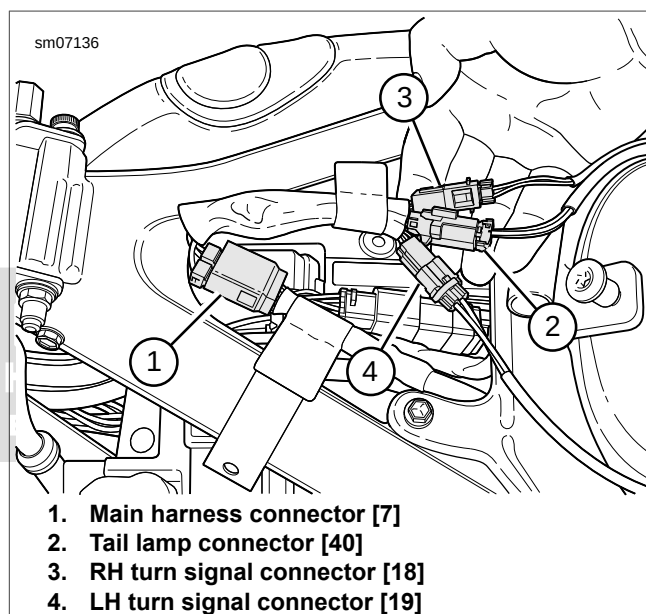
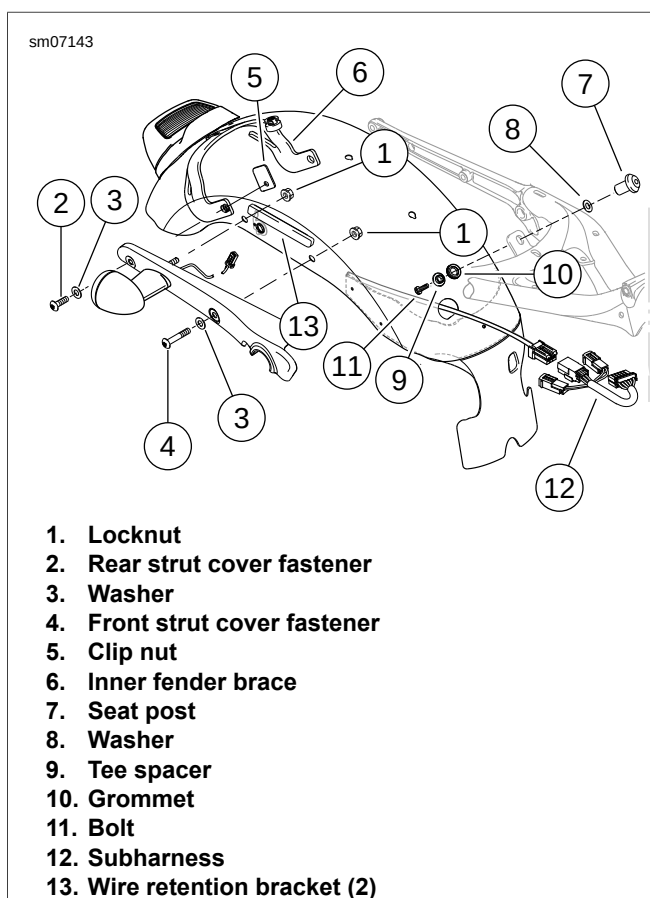

Figure 2-201. Turn Signal Wire Harness: XL 1200C/C ANV/CP/CA/CB
Figure 2-203. Rear Fender Assembly: XL 1200C/C ANV/CP
3. See Figure 2-201. Disconnect the right [18] (3) and left [19] (4) turn signal connectors and the tail lamp connector [40] (2).
6. See Figure 2-203. Remove rear turn signal stalk nuts (1) from inside rear fender on both sides.
7. Support the fender and remove the front (4) and rear (2) fender fasteners with washers (3) and strut covers with attached turn signal assemblies from rear fender struts.
8. Remove bolt (11), seat post (7) and flat washer (8) to detach top of rear fender from frame cross member tab.
3. See Figure 2-203. Secure front of fender with bolt (11), washer (8) and seat post (7). Finger-tighten.
5. Remove bolts from right side of fender. Install fender strut cover with attached turn signal assembly to fender strut with the locknut (1).
6. Secure fender to strut with fasteners (4), washer (3) and locknut (1) in forward mounting hole. Install fastener (2), washer (3) and clip nut (5) in aft mounting hole. Finger-tighten screws only at this time.
- a. Tighten bolt (11) and seat post (7) to 96-156 **in-lbs** (10.9-17.6 Nm).
- b. Tighten turn signal stalk nuts (1) to 96-156 **in-lbs** (10.9-17.6 Nm).
10. See Figure 2-201. Connect the right [18] (3) and left [19] (4) turn signal connectors and the tail lamp connector [40] (2).